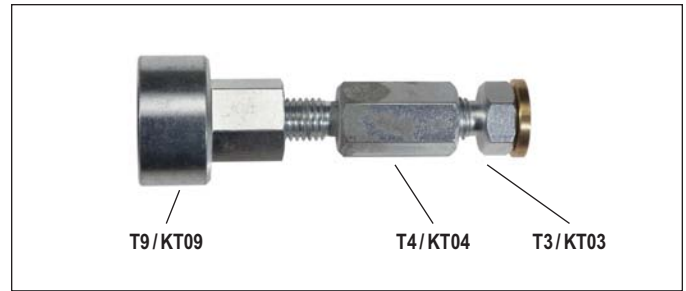
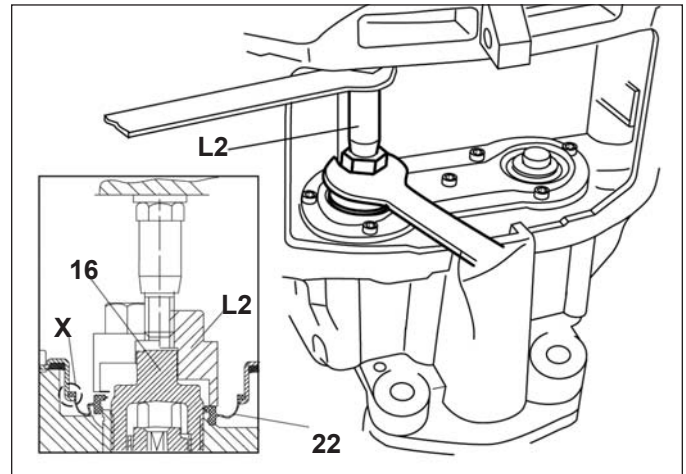

FIGURE 54 - ON-VEHICLE INNER SEAL INSTALLATION TOOL (L2)
FIGURE 55 - OFF-VEHICLE INNER SEAL INSTALLATION
5.5.13 Position the replacement inner seal (22) over the threaded tube (16). See Figures 54 and 55 for the tools and installation arrangement used. Position the combination tool L2 (T4 + T3 + T9) with the long spacer (T4) in position as shown in Figure 55 - typically the threaded tubes need to be partially retracted to allow the tool to set the inner seals into position. Guide the tool over the end of the threaded tube (16). Install the new inner seal (22) into position by rotating the adjuster nut on the T4 portion of the tool using an open-ended wrench.